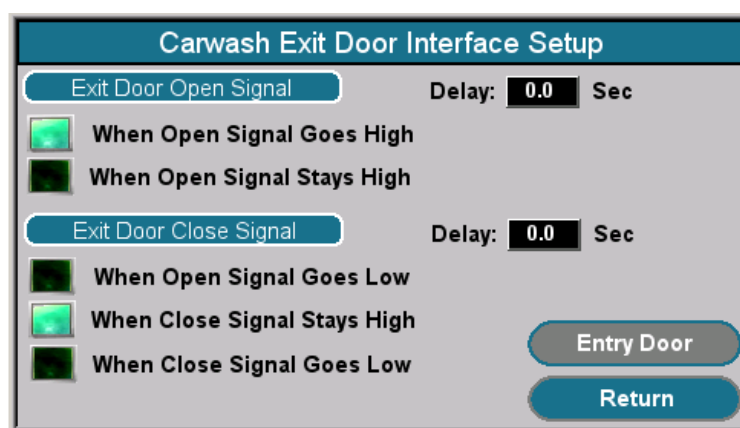

Fig. 9B
- If [Define Signals] is chosen, the screen in Fig. 9B will display. This screen will give the ability to configure open/close functions best suited to each car wash.